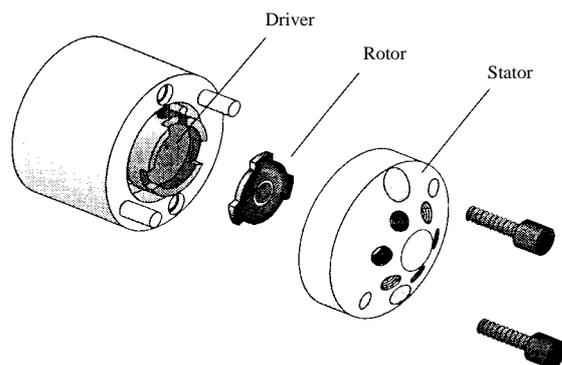

FIGURE A-1. Exploded View of the Valco Model C2 Valve (6-port Version)
- a) Use a 9/64" hex driver to remove the socket head screws which secure the cap to the valve (FIGURE A-1)